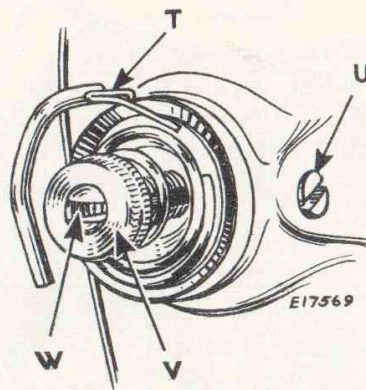

Fig. 19. Timing and Adjustments of Thread Take-up Spring
The tension on the needle thread should be regulated only when the presser feet are down. After lowering the presser feet, turn the thumb nut (V, Fig. 19) at the front of the tension discs, clockwise to increase the tension, or counterclockwise to decrease the tension on the needle thread.
The thread take-up spring (T, Fig. 19) should be set so that when the eye of the needle reaches the material on the downward stroke of the needle bar, the spring will be through acting and will rest against the stop on the thread take-up spring regulator.
If the thread take-up spring is not correctly set, loosen the set screw (U, Fig. 19) in the arm of the machine, and turn the tension screw stud (W, Fig. 19) clockwise to retard the movement of the spring, or counterclockwise to advance this movement. When the spring is correctly set, securely tighten the set screw (U).